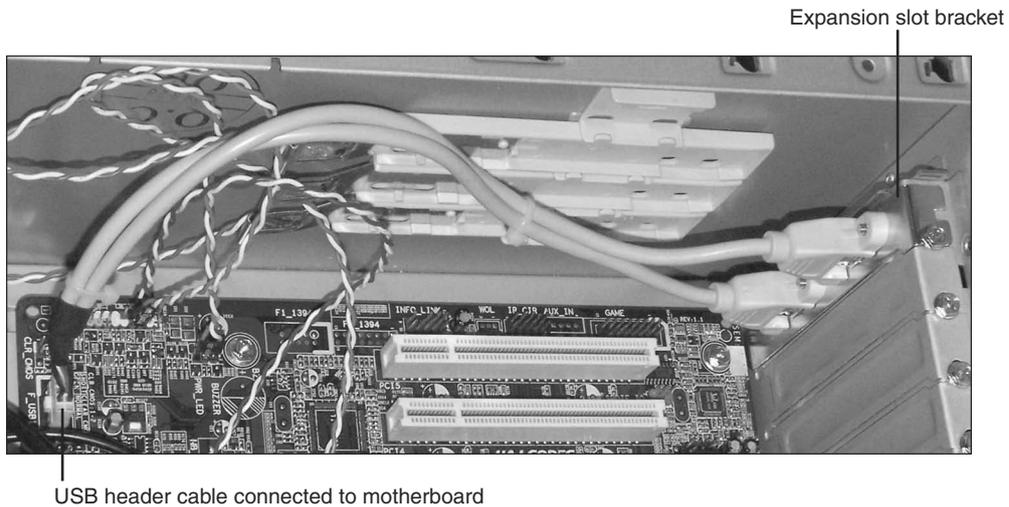

Figure 3-16 A typical dual-USB header cable that uses an expansion slot bracket.
- Step 6.** Disconnect header cables from front- or rear-mounted ports and remove them from the system (see Figure 3-16).